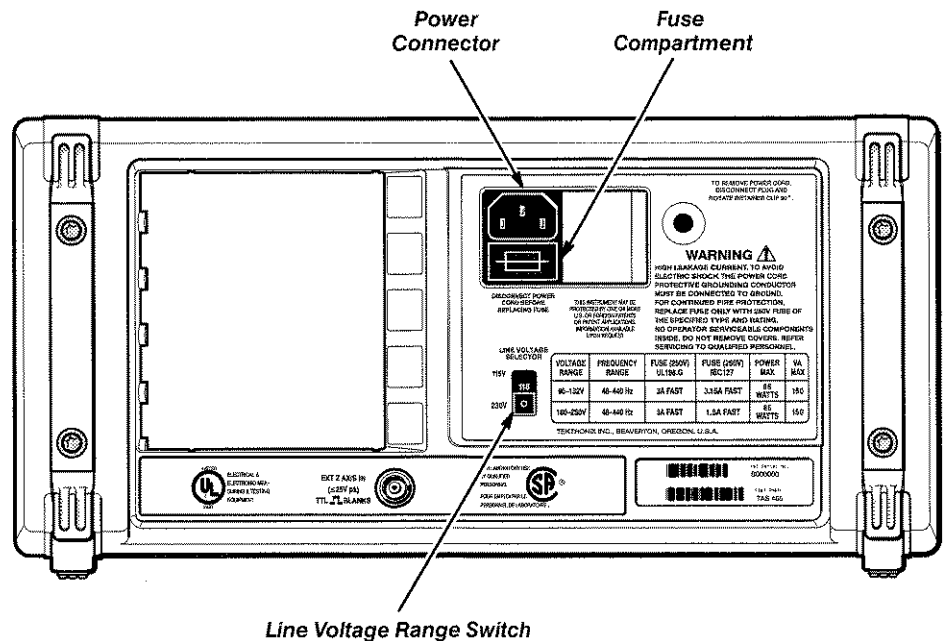

Figure 2-1: Rear Panel for B020099 and Below
2. For serial numbers B020099 and below, check that the Line Voltage Range switch (Figure 2-1) is at the proper setting for your power system. For serial numbers B020100 and above, no line voltage setting is required.
4. Connect the proper power cord from the rear-panel power connector (Figure 2-1) to the power system.